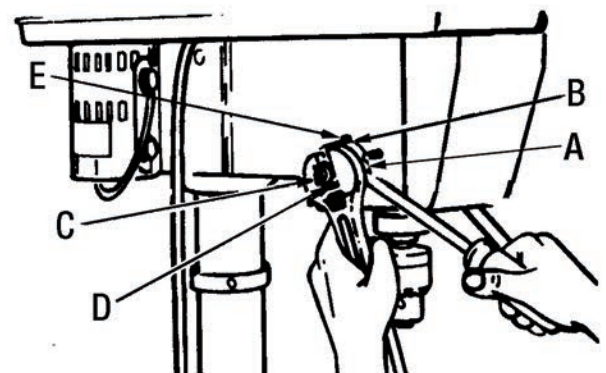

FIGURE 20
4. Place screwdriver in the lower front notch (A) Fig.20 of the spring cap (B), and hold it in place while loosening and removing the outer nut (C) (only).
5. With screwdriver remaining in the notch, loosen inner nut (D) (approx. 1/8") until the notch disengages from the boss on the head. Do not remove this nut.
6. Carefully turn screwdriver counterclockwise and engage the next notch (E) in the boss. Do not remove screwdriver.